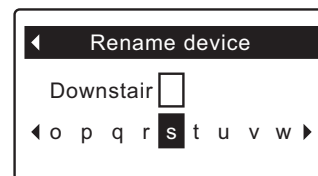

FIG. 75
7. Press the RIGHT (▶) or LEFT (◀) buttons to scroll through the character list. Stop when the character you want to select is highlighted (See Fig. 75).